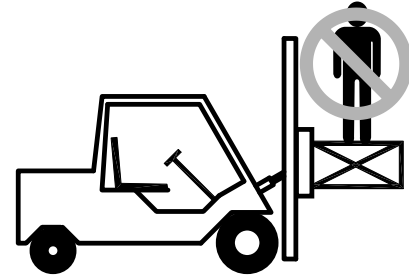

Figure 3-1
- Never stand on top of material being raised, lowered, or transported. (Figure 3-1)